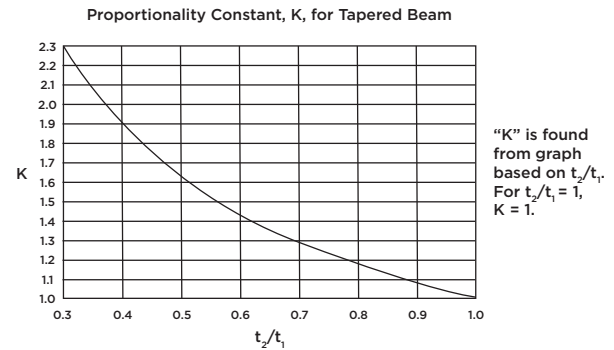
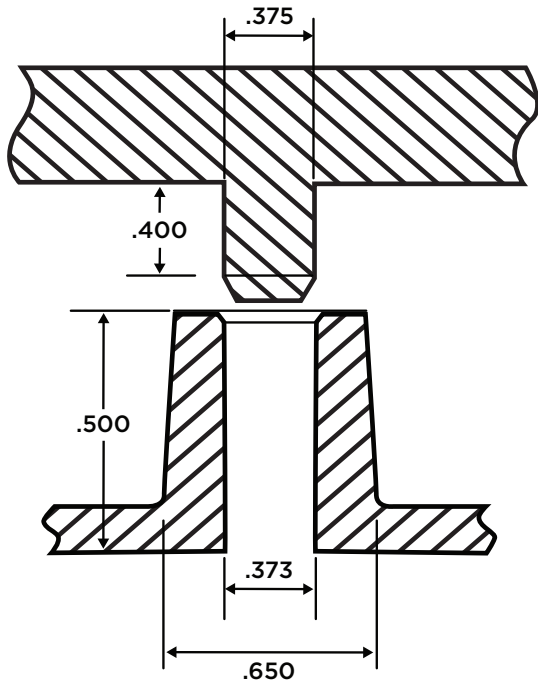

FIGURE 14 - “K” proportionality constant
FIGURE 15 - Press fit example
Press fit design is determined by the hoop stress on the boss and the pull-out force needed. Hoop stress can be determined using the following equations (figures 15–18).1
- V = Length of Boss (figure 14) = .400
- I = Interference Fit (figure 15)
Figure 14 is an example of a press fit problem. The equations listed in figures 15–18 will help determine the pull-out force on the press fit. The pull-out force will determine how difficult it will be to pull the two pieces apart.